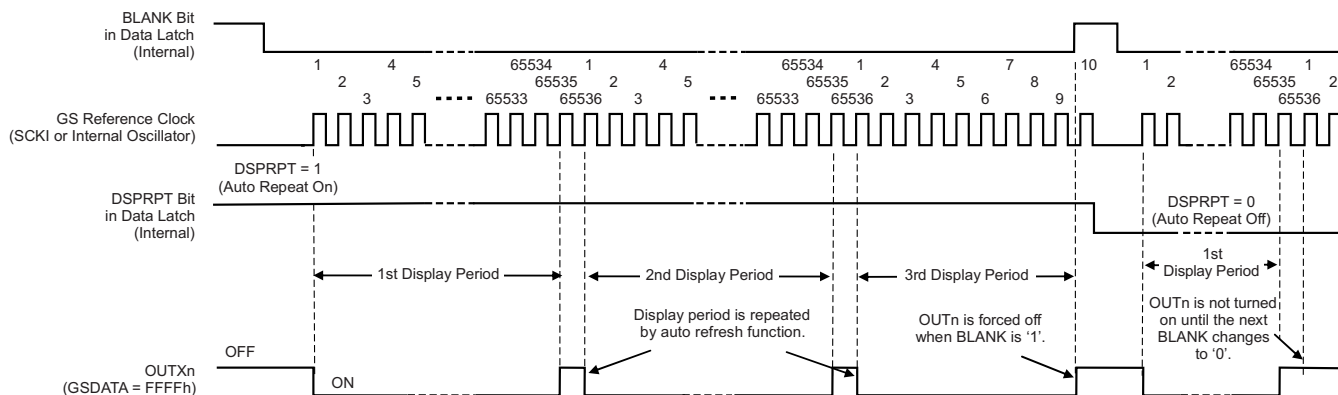

Figure 26. Auto Repeat Display Function
This function repeats the total display period without a BLANK bit change, as long as the GS reference clock is available. This function can be enabled or disabled with DSPRPT (bit 214) in the data latch. When the DSPRPT bit is '1', this function is enabled and the entire display period repeats without a BLANK bit data change. When the DSPRPT bit is '0', this function is disabled and the entire display period executes only once after the BLANK bit is set to '0' or the internal latch pulse is generated when the display timing reset function is enabled. Figure 26 shows the auto display repeat operation timing.
• Changed <a href="#">Figure 26</a> .....	<a href="#">22</a>